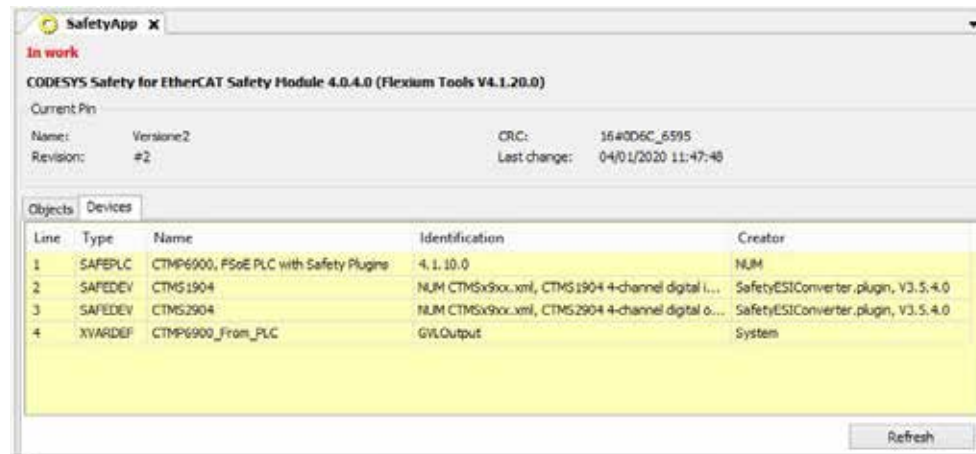

Fig.23 Editor of the safety application object with device list
3. In the "Add Logical Device" dialog (see Fig. 23) in the "Logical devices" category, select the desired logical I/O in the "Logical exchange devices" subcategory.